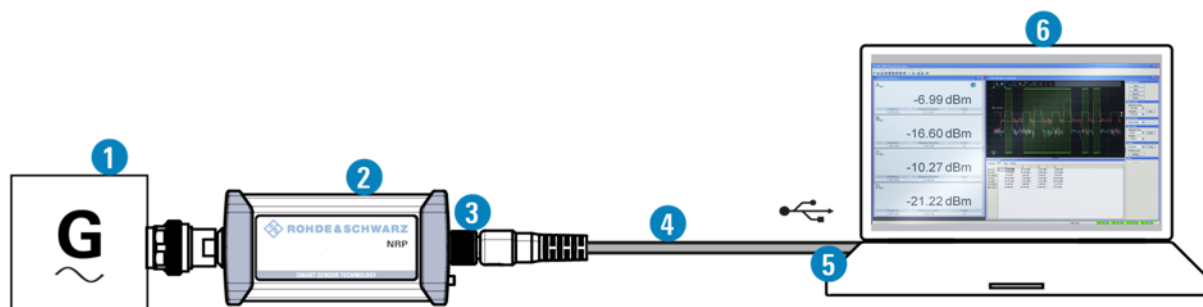

Figure 6-1: Configuration with an R&S NRPV
1. Connect the power sensor to the PC as shown in Figure 6-1.